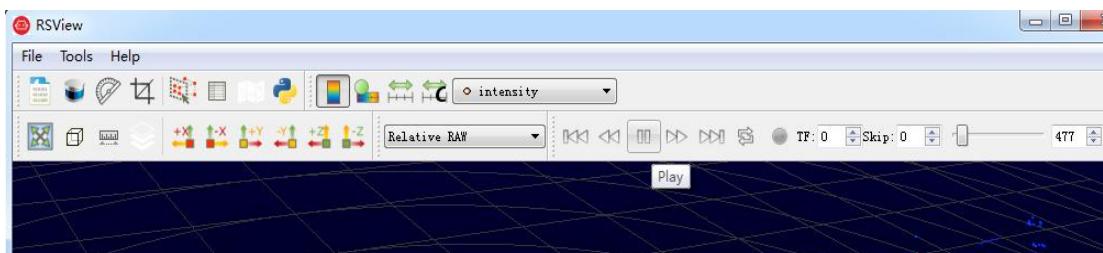

Fig C-8 RSVIEW Play Button
4. Press **Play** to replay/pause the data stream. Use the Scrub slider tool (it looks like an old-fashioned volume slider) to move back and forth through the data frames. Both controls are in the same toolbar as the **Record** button (Fig C-8).